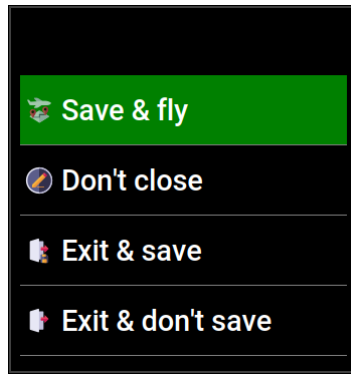

Figure 4.4: Closing the page or switching to a next page ask wheather to save, to ignore, to continue editing or to activate the route.
- If the **Close** or **Pager** button is pressed, Nesis ask wheather to save the route you have prepared so far, Figure 4.4.